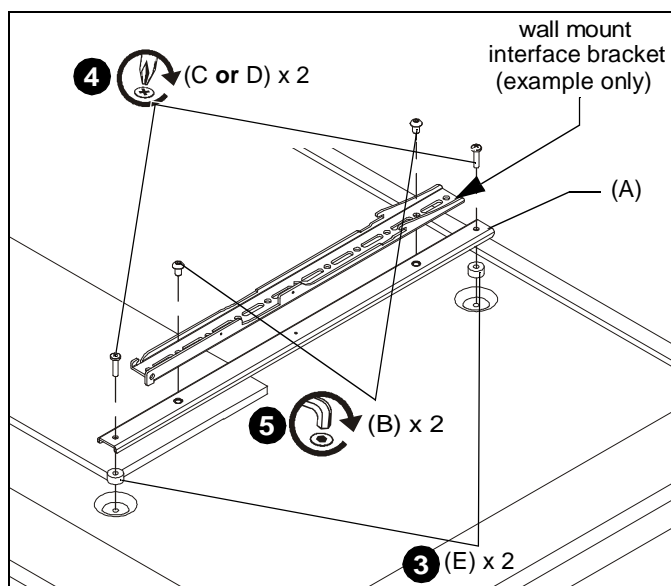

Figure 1
3. Position two spacers (E) over two holes on back of display. (See Figure 1)
4. Install two M8 x 25mm Phillips head cap screws (D) **OR** two M8 x 20mm Phillips head cap screws (C) through channel bracket (A), spacer (E) and into back of display. (See Figure 1)
5. Use two M8 x 12mm button head screws (B) to secure wall mount interface bracket to channel bracket (A). (See Figure 1)